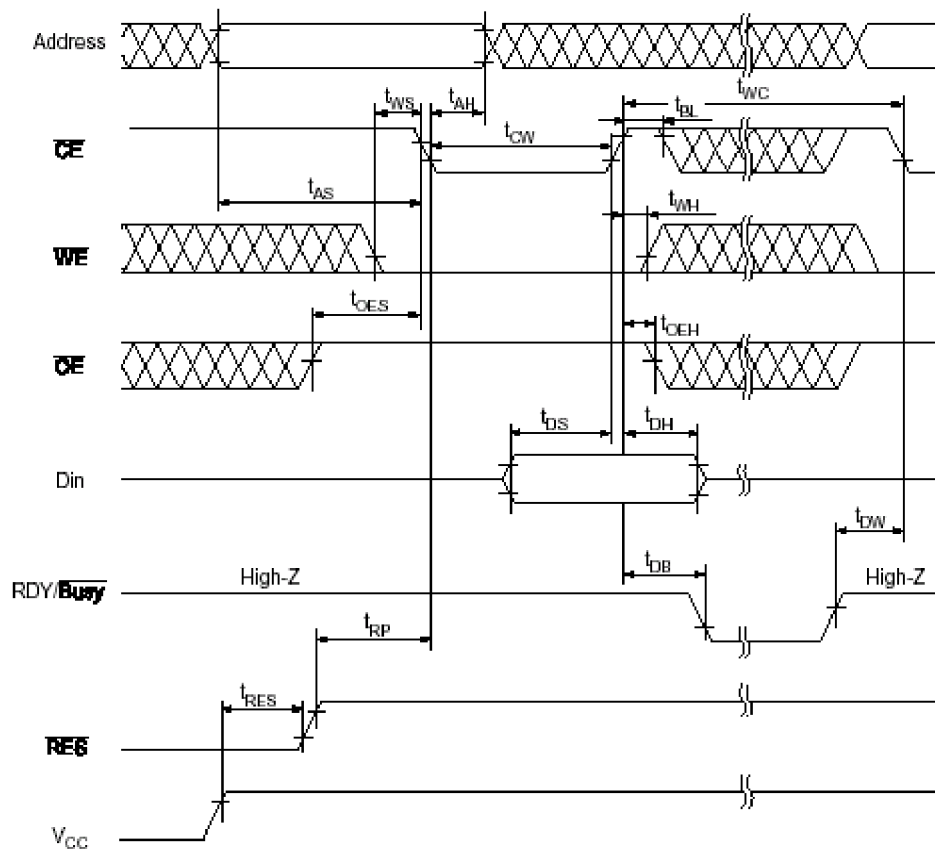
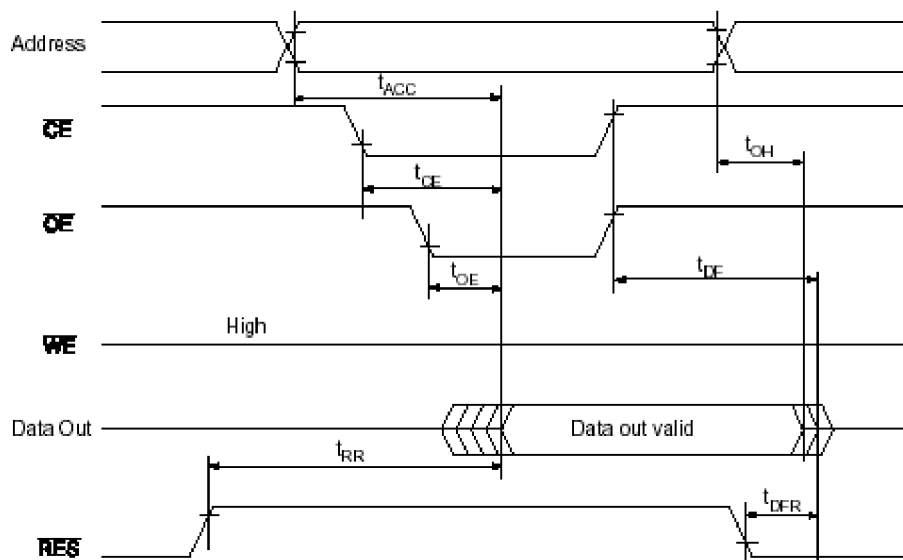

Figure 2 MMEE08001808SCC Write cycle timing (#CE control)
Figure 3 MMEE08001808SCC Read cycle timing
- 3) Take the CE and WE pin low to write the byte. Respect the timing in figure 2. Send WE low for a moment, then put it high again. If the EEPROM is working properly, you have now stored your byte, and you can later examine it by taking OE high and to respect figure 3 for reading operation.